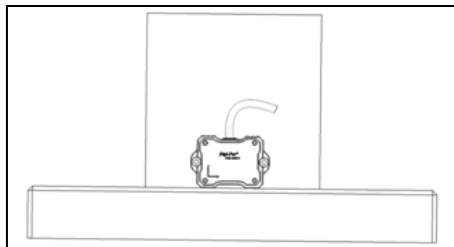

Figure 1. Position of Calibration Step 1
13. Locate the sensor module as following Figure 1. The sensor is ready for user to perform calibration step 1.
20. For DWL5500XY model, please perform only 4 steps calibration as shown in Figure 1, 2, 7, 8. The sensor module will automatically change to dual axis mode and broadcast dual axis angle measurement (Please refer to 2.4.2 Dual Axis Mode) after the calibration process is completed.